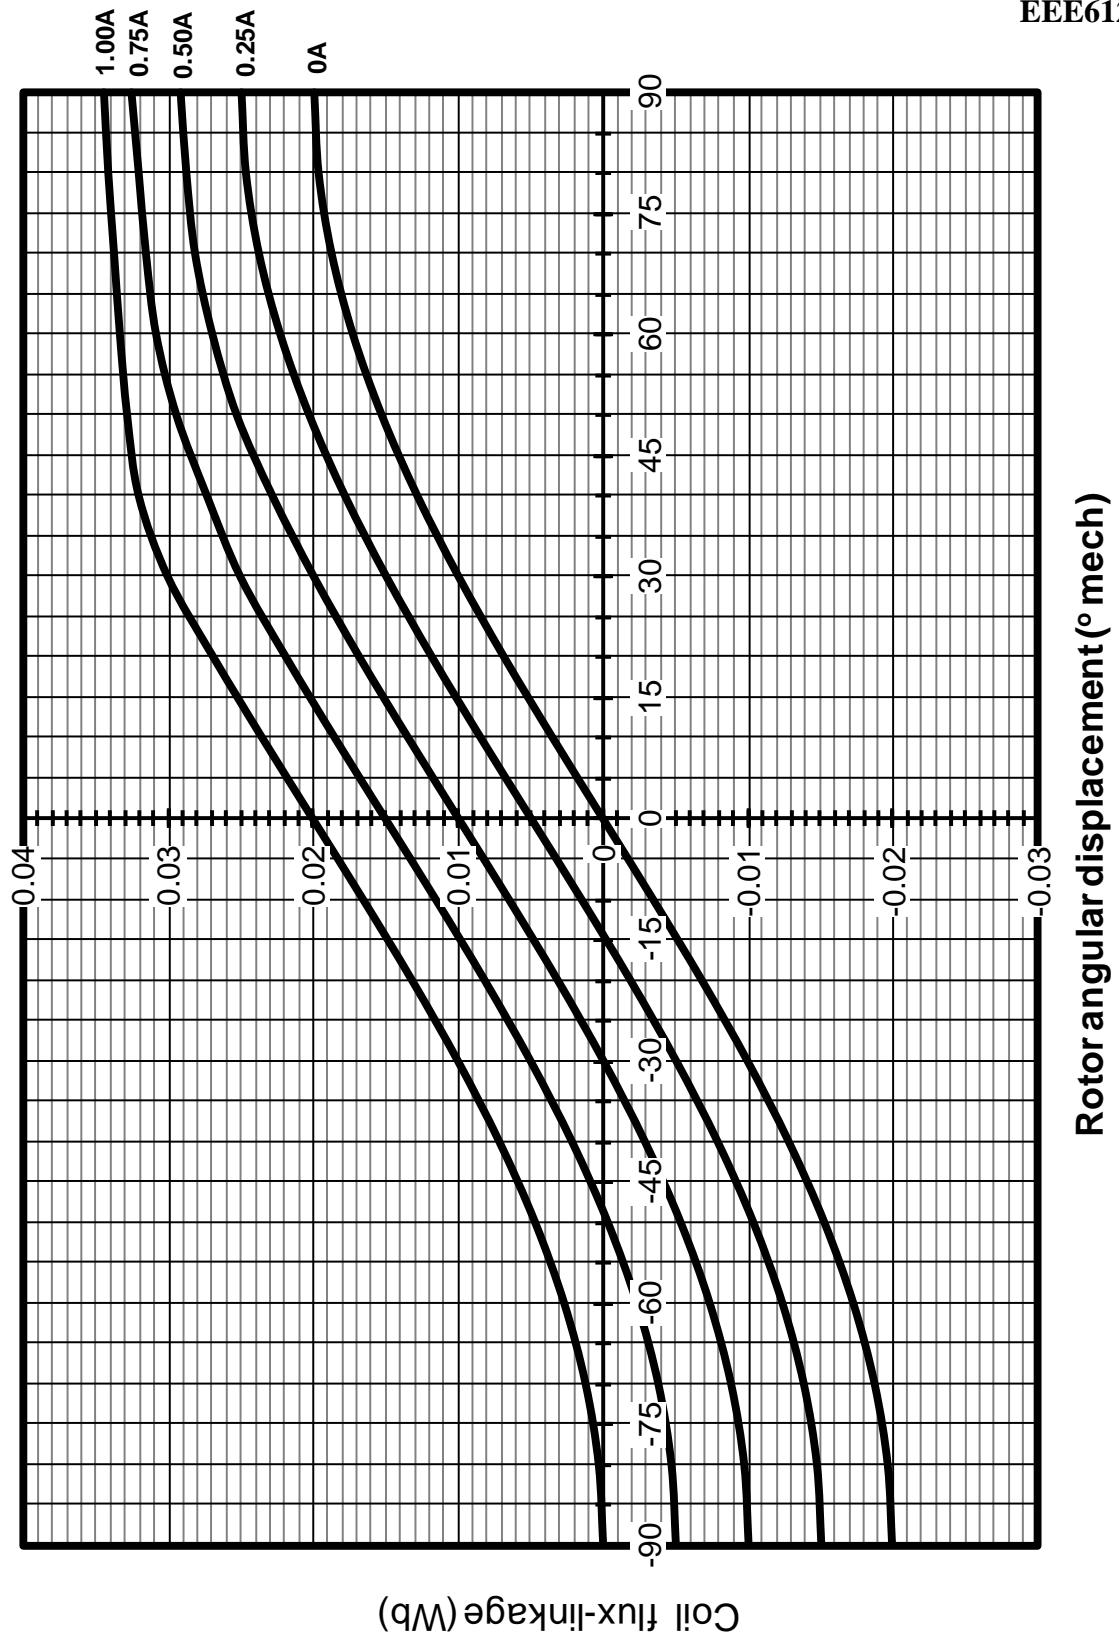

Figure 4b – Measured variation in coil flux-linkage with rotor angular displacement for the motor of Figure 4a
- a. Calculate the peak value of the open-circuit back-emf at 3200rpm. (4)
- b. Given that the Silicon Iron cores begins to magnetically saturate at a flux density of 1.6T, estimate the length of the airgap between the rotor and stator (You may assume that the permanent magnet has a relative permeability of 1.0). (5)
- c. By plotting the appropriate flux-linkage versus current characteristics, calculate the average torque produced by the motor for currents of 0.25A and 1.0A. (7)
- d. The motor manufacturer is considering modifying the power electronic converter such that the width of each pulse is reduced from 180° (elec) to a 120° (elec) wide pulse which is symmetrical about 0° (as defined in Figure 4b). Calculate the torque that would be produced by this new converter at 0.25A. (4)